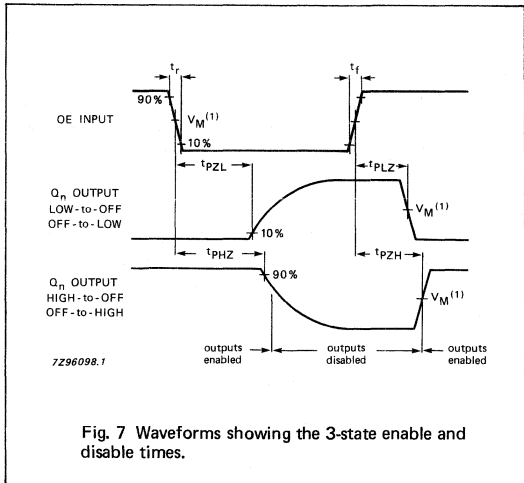

Fig. 7 Waveforms showing the 3-state enable and disable times.
With the FIFO full, SI can be held HIGH until a shift-out ($\overline{S}O$) pulse occurs. Then, following a shift-out of data, an empty location appears at the FIFO input and DIR goes HIGH to allow the next data to be shifted-in. This remains at the first FIFO location until SI goes LOW (see Fig. 7).
- SI is held HIGH when the FIFO is empty, some additional logic is required to produce a composite DIR pulse (see Figs 7 and 18).